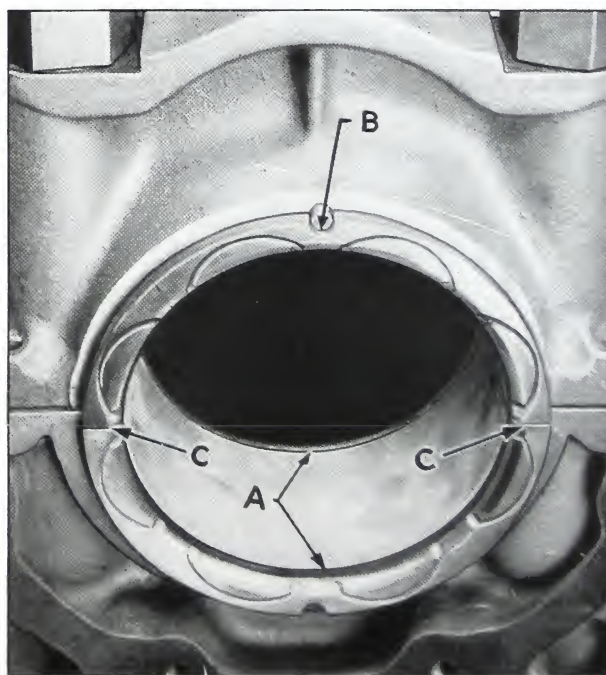

Fig. 2-30. Clearances between dowels and thrust rings
clearance between the bearings and the thrust ring at point "A", Fig. 2-30, when the thrust rings are held firmly against the block or cap.
7. Check clearance between dowel pins and thrust rings (point "B", Fig. 2-30). A clearance of .015 to .025 should be obtained between dowels
and thrust rings. Check clearance at parting line (point "C", Fig. 2-30), of thrust rings. This should be from .020 to .040 when clearance is all taken at one side.